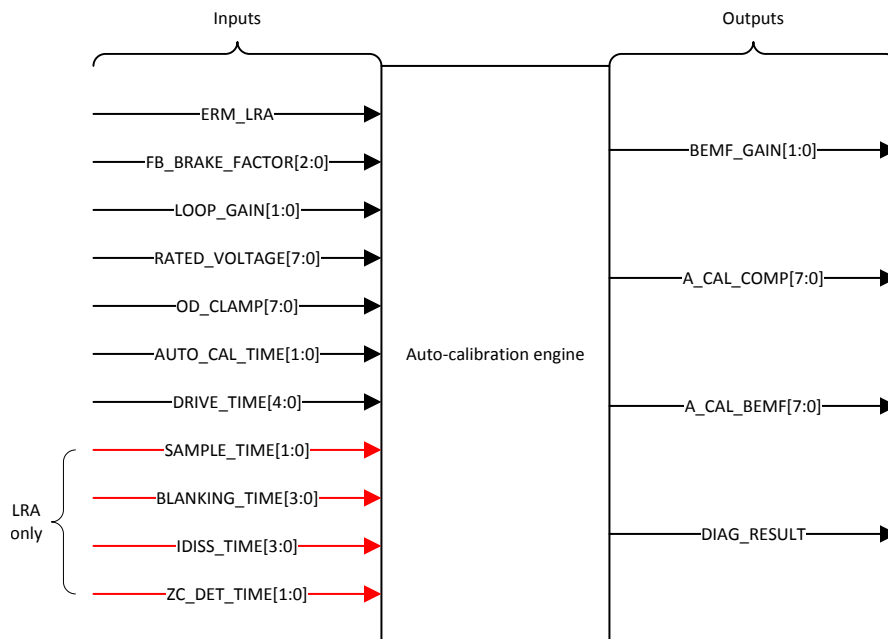

Figure 25. Calibration-Engine Functional Diagram
The calibration engine requires a number of bits as inputs before the engine can be executed (see Figure 25). When the inputs are configured, the calibration routine can be executed. After calibration execution occurs, the output parameters are written over the specified register locations. Figure 25 shows all of the required inputs and generated outputs. To ensure proper auto-resonance operation, the LRA actuator type requires more input parameters than the ERM. The LRA parameters are ignored when the device is in ERM mode.
4. Set the GO bit (write 0x01 to register 0x0C) to start the auto-calibration process. When auto calibration is complete, the GO bit automatically clears. The auto-calibration results are written in the respective registers as shown in Figure 25.